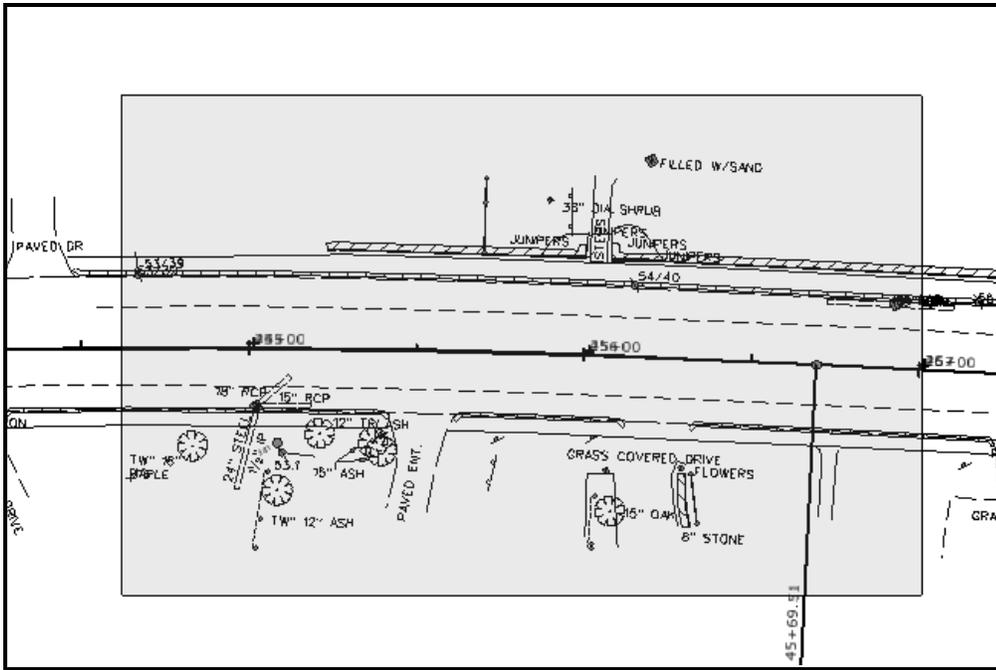

Figure 1-48: Place Fence
- 🎵 Based on the rotation you used in your view, it may be necessary to toggle the **Rotate 90** on or off to plot correctly (Figure 1-48).